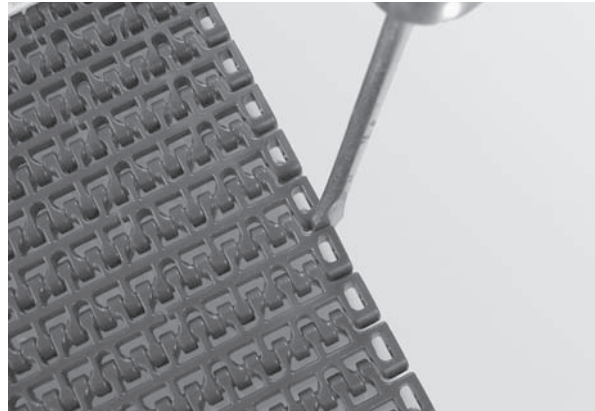

Figure 57
1. Place the edge of a flat head screwdriver between the two belt links and turn clockwise (Figure 57).